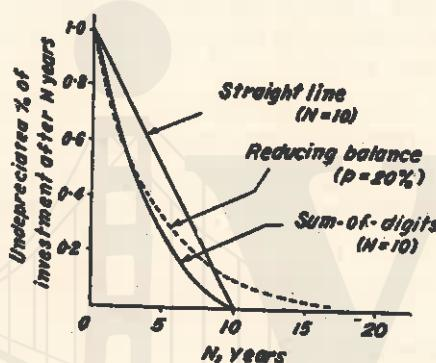

Fig. 27.2. Comparison of methods of calculating depreciation.
- Fig. 27.2 shows a comparison of three alternative methods of calculating depreciation.